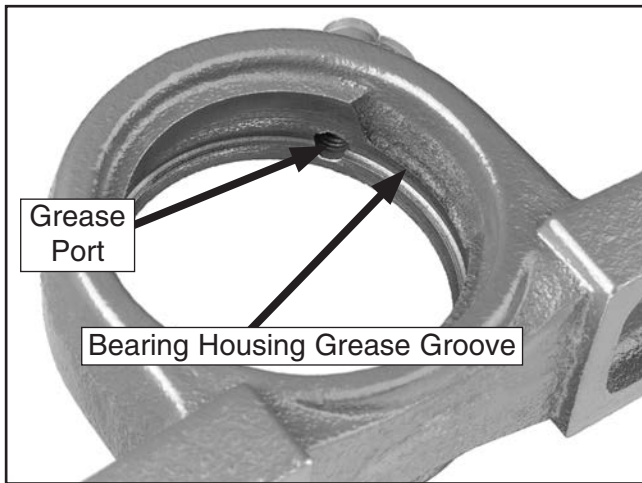

Figure 49. Typical bearing-block grease groove and grease port.
- Remove any metal or abrasives trapped in the bearing grease groove and grease port (see **Figure 49**), or contaminants will be pumped into the new bearing when you lubricate it, causing bearing failure.